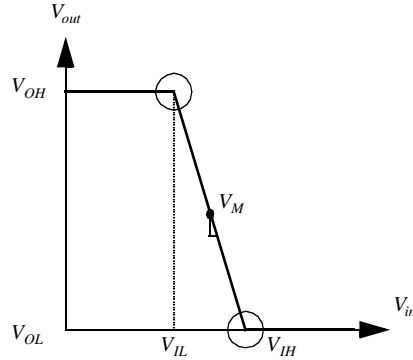

Figure 5.2 A different approach to derive  $V_{IL}$  and  $V_{IH}$ .
2. Figure 5.2 shows a piecewise linear approximation for the VTC. The transition region is approximated by a straight line with a slope equal to the inverter gain at  $V_M$ . The intersection of this line with the  $V_{OH}$  and the  $V_{OL}$  lines defines  $V_{IH}$  and  $V_{IL}$ .